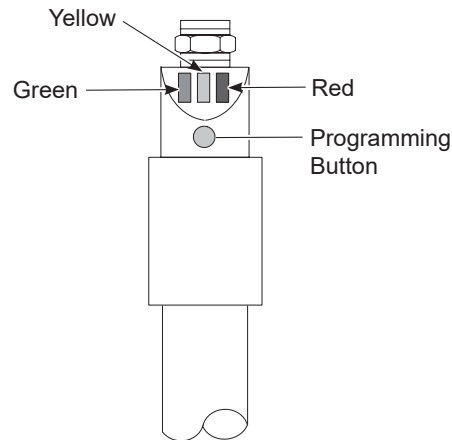

Figure 4-2 Programming the One Button Level Sensor Probe
3. See Figure 4-2. Press the programming button until the green LED flashes slowly, then release it. When the green LED stops flashing and the yellow LED turns off, the level sensor is programmed for Empty.
See Figure 4-2. Press the programming button until the green LED flashes quickly, then release the button.